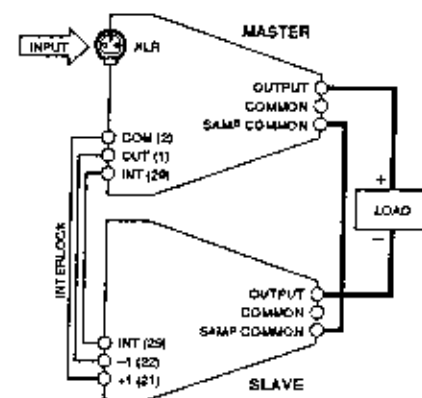

Fig. 3.19 Interlock Push-Pull System Wiring
In the Push-Pull configuration, both amplifiers are at ground potential and the system output is balanced above ground. It is therefore mandatory that neither side of the load be grounded. If this is not possible, use the Series configuration. Figure 3.19 shows the basic system connections:
4. Make an interlock cable as shown in Figure 3.19 and connect it to the 37-pin System Interlock connector of each amplifier.